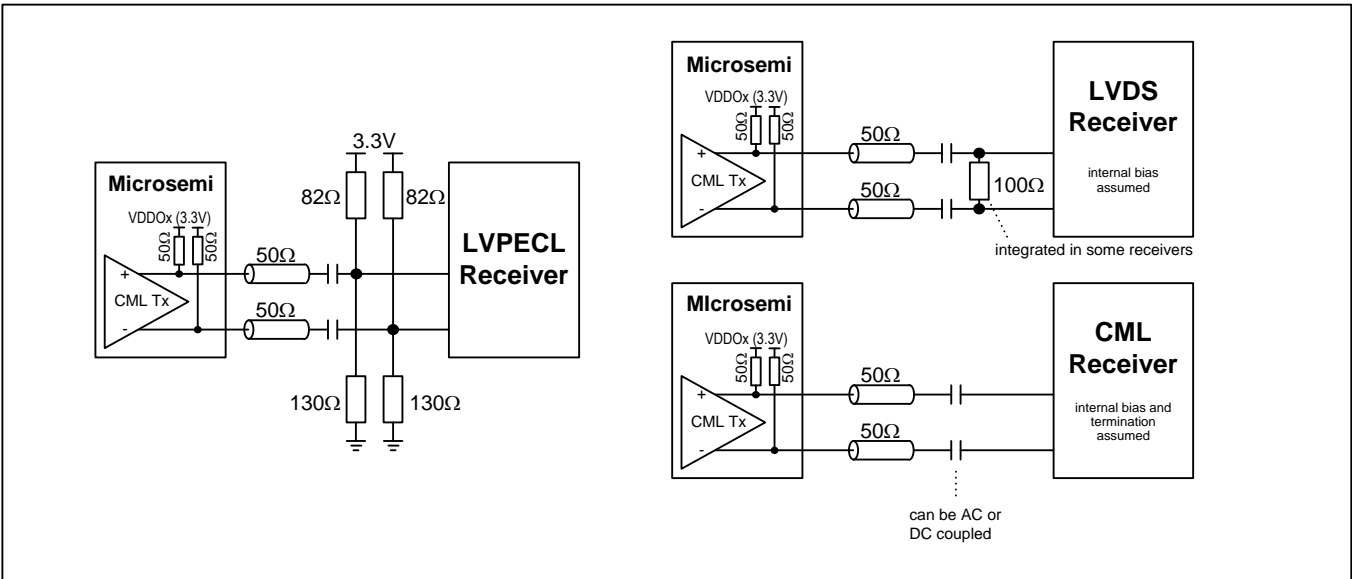

Figure 15 – Example External Components for CML Output Signals
**Note 1:** The differential CML outputs can easily be interfaced to LVDS, LVPECL, CML and other differential inputs on neighboring ICs using a few external passive components. See Figure 15 for details.